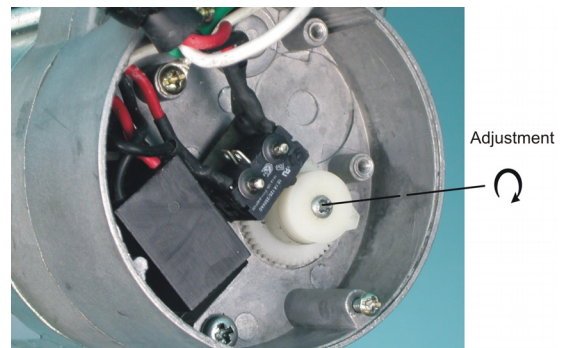

Figure 65. Setting the Actuator
11. Install the Poultry Trainer or Line Charger, as shown in **Figure 65 or 66**.
The Poultry Trainer is used to power all Anti-Roost lines in a house. See **Figure 65**.